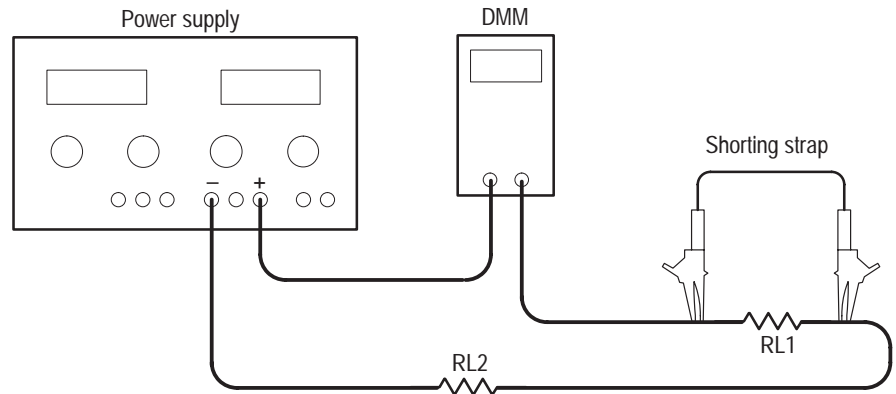

Figure 2: Constant current test setup
8. Connect the digital multimeter and load resistors to the + and – terminals of the power supply MASTER output as shown in Figure 2. See Table 7 for the appropriate load resistor values.
9. Verify that the power supply output current varies less than 0.2% \pm 3 mA while shunting load resistor RL1 with the shorting strap. See Figure 2 above.
7. Connect the digital multimeter and load resistors to the + and – terminals of the power supply SLAVE output as shown in Figure 2. See Table 7 for the appropriate load resistor values.
8. Verify that the power supply output current varies less than 0.2% \pm 3 mA while shunting load resistor RL1 with the shorting strap. See Figure 2 above.
7. Connect the digital multimeter and load resistors to the + and – terminals of the power supply MASTER output as shown in Figure 2. See Table 7 for the appropriate load resistor values.
8. Verify that the power supply output current varies less than 0.2% \pm 5 mA while shunting load resistor RL1 with the shorting strap. See Figure 2 above.